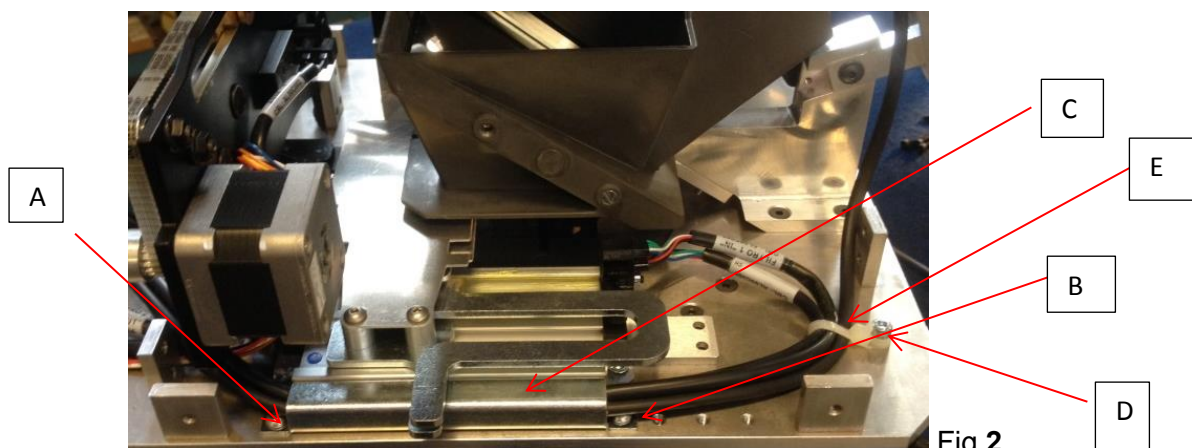

Fig 2
3. Disconnect all four connectors (**CN 4-7-5-8**). Loosen the screws **A)** and **B)**, and remove the cable case **C)**. Then, remove screw **D)** and cut the plastic cable tie **E)** as shown in fig. 2